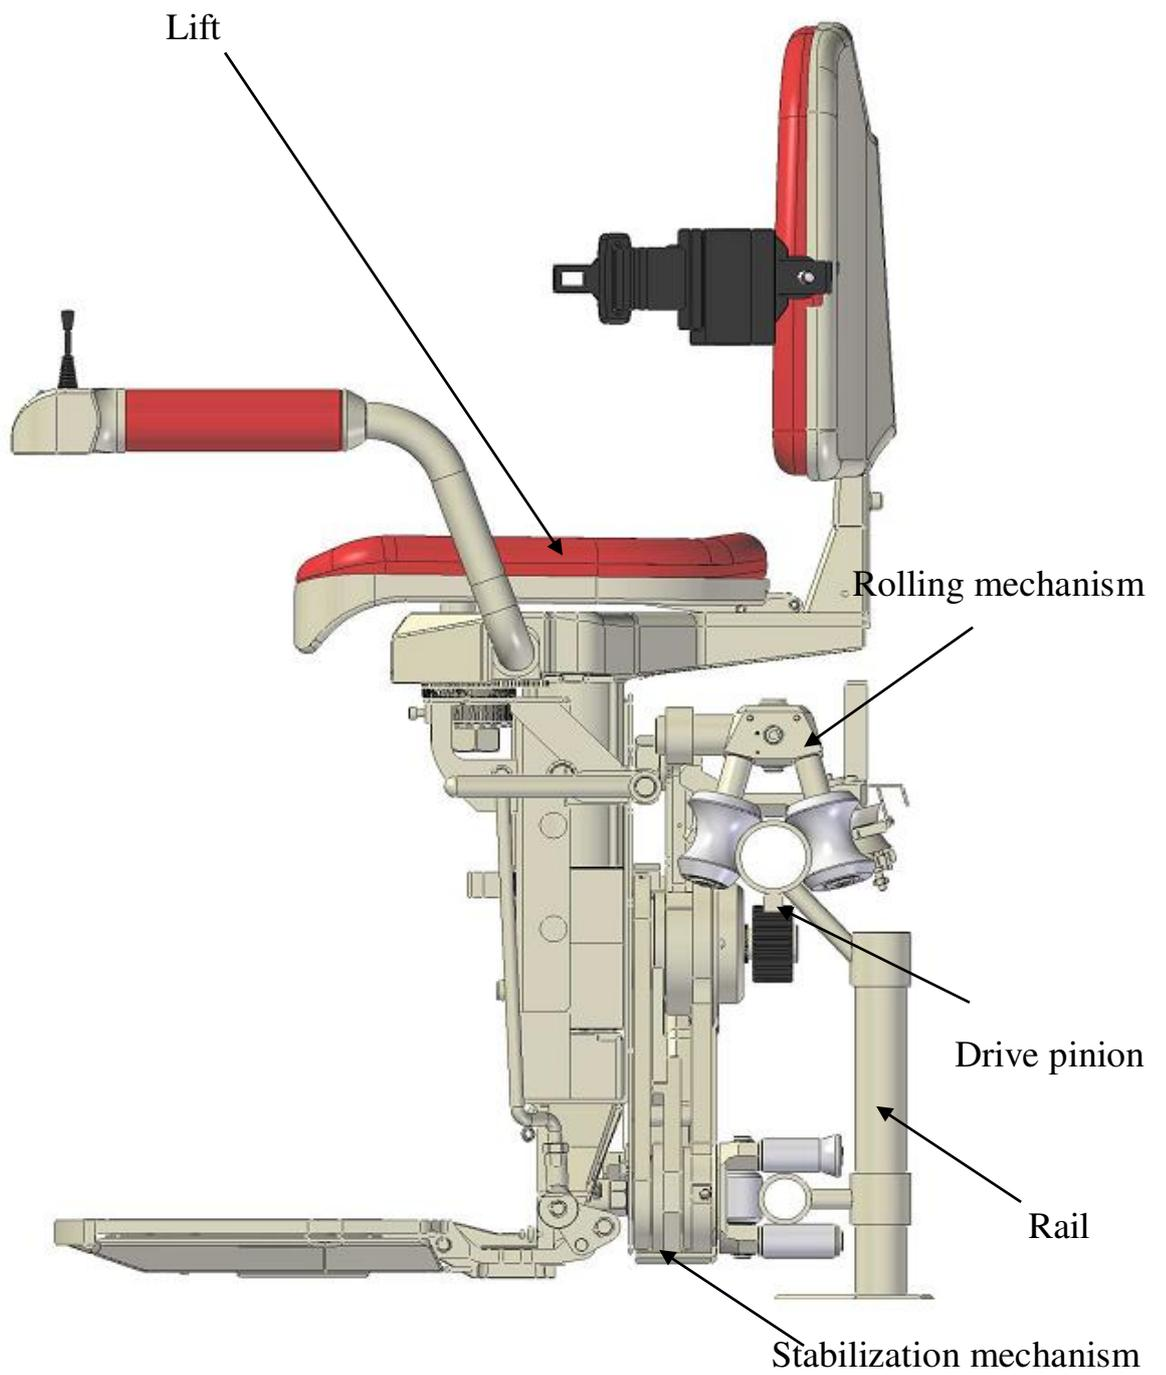
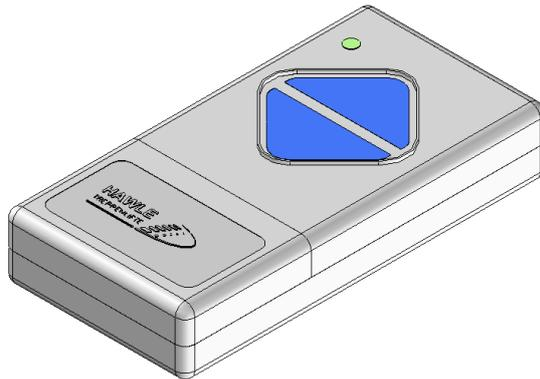
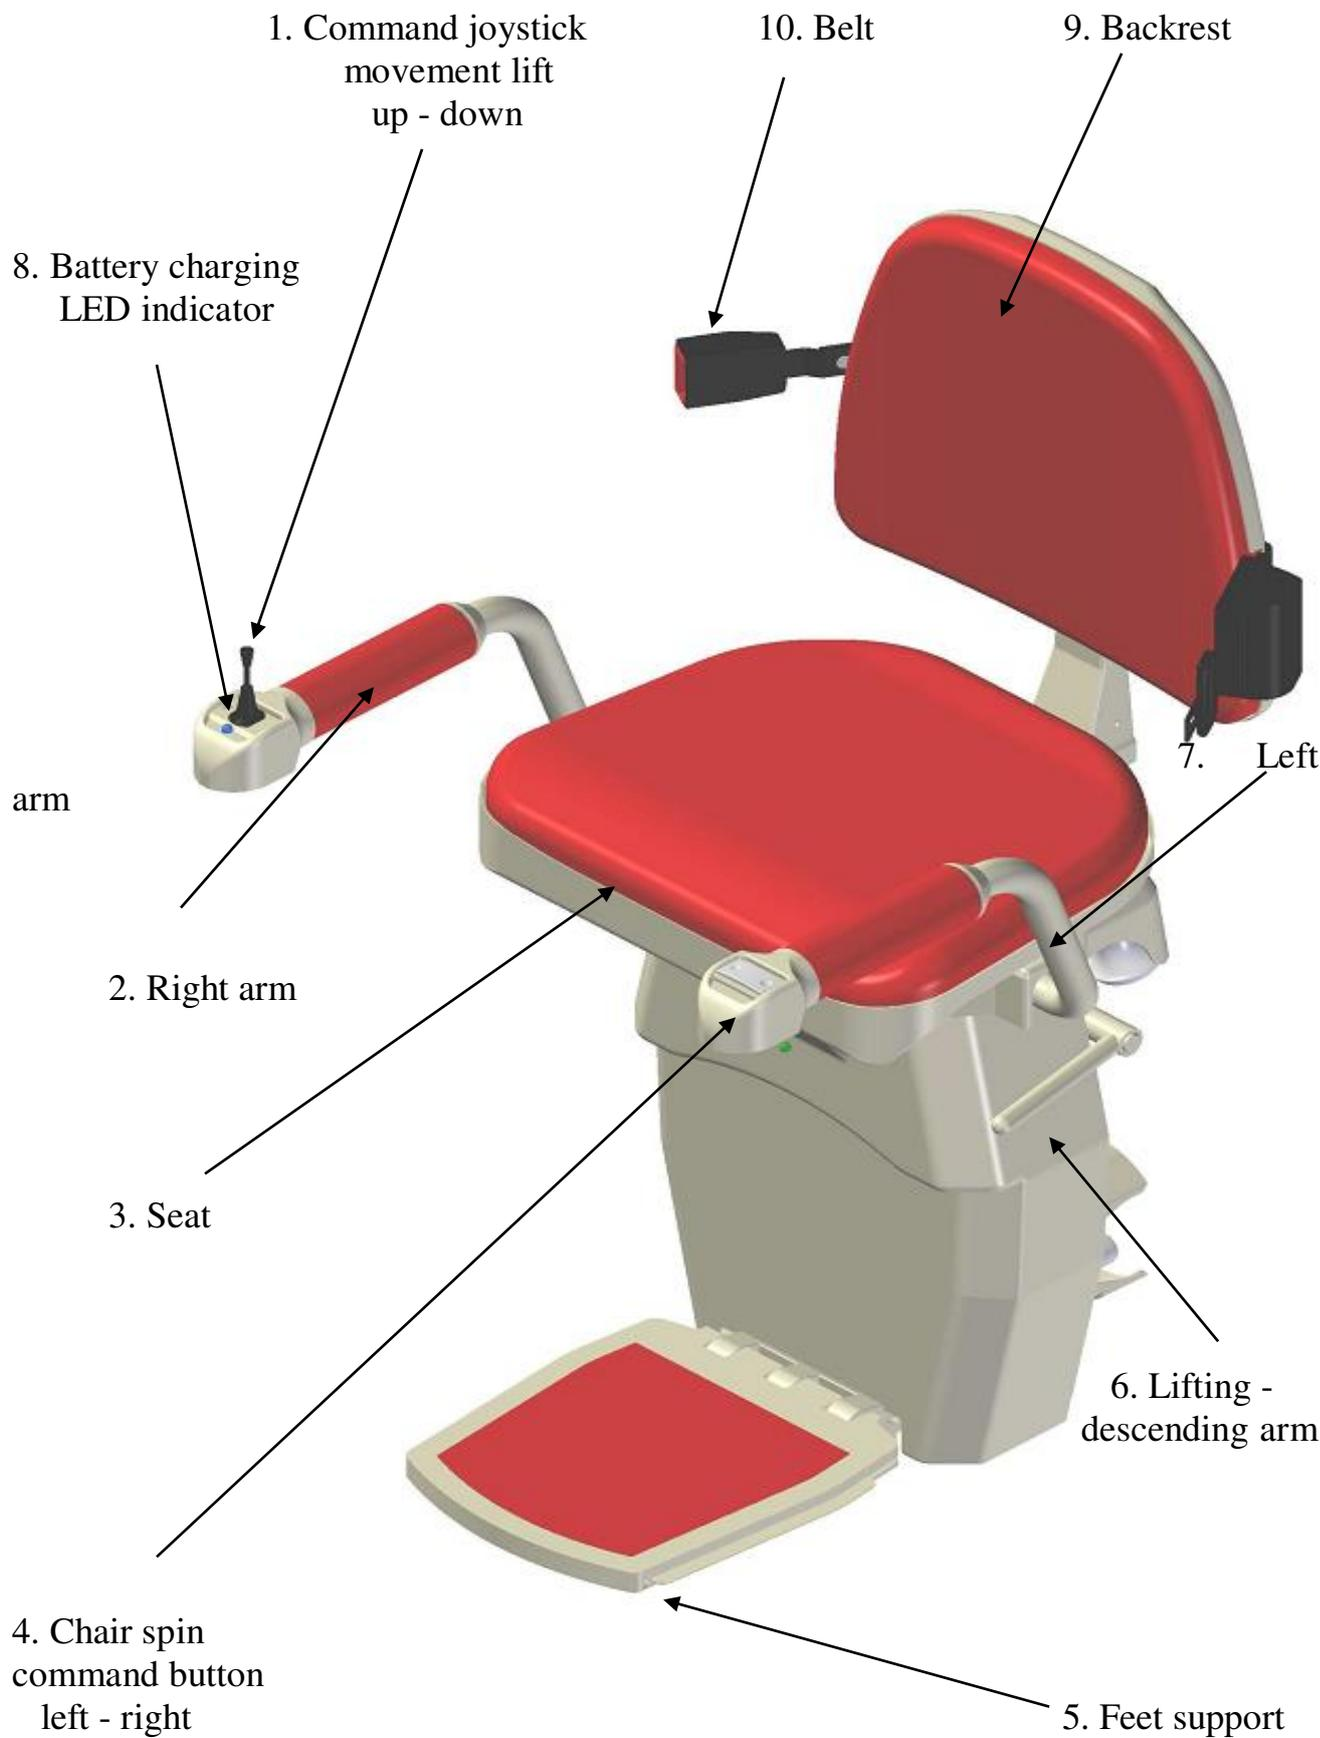

Fig. 2
Fig. 3
Fig. 5
Calling the lift from/to the parking area is made with the remote control in fig. 3, by pressing one of the two keys labeled with arrows.
- bring down the arms (2) and (7) from the vertical position, as shown in fig. 4, to a horizontal position, as shown in fig. 5.
- the same applies to the seat (3)
- by lifting the handle (6), you can also tilt the foot rest (5) from a folded position fig. 2 to a use position fig. 5; after that, you can get on the lift. Starting and moving the lift is made by moving the joystick (1) fig. 5, as follows:
- to stop the lift at either end of the track, the control joystick must remain actuated until the lift reaches the charging contacts and stops on its own, followed by the blue LED (8) on the joystick arm lighting up, this indicating that the battery is charging from the power supply
- when the travel ends and the top of the track is reached, the seat (3) with backrest and arms (2) and (7) fig. 5 are rotated to max. 90° to facilitate the user to get on and off the seat. The standard stair lift is equipped with manual swivel seat function. Next are the steps for using this function:
This movement is controlled by button (4) fig. 5, as follows:
- lift the seat (3), arms (2) and (7), press the handle (6) fig. 5, then, using the remote, send the lift in the parking area
The LED (3) fig. 2 signals using a certain code (flashes) any possible malfunction (e.g.: the lift reached an obstacle without you seeing it, or the seat (3) fig. 3 is not in the correct travel position, and when any other protection sensor is activated).
The LED illuminates when the switch key (2) fig. 2 is inserted, and stays on all the time the lift is on.